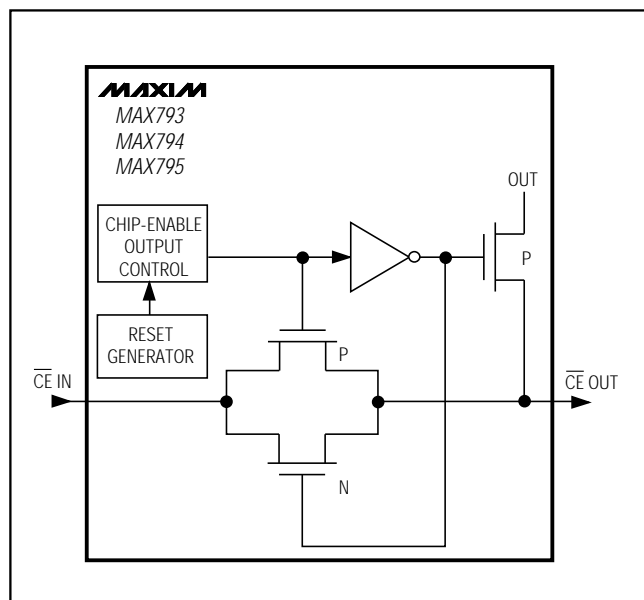

Figure 7. Chip-Enable Transmission Gate
Internal gating of chip-enable (CE) signals prevents erroneous data from corrupting CMOS RAM in the event of an undervoltage condition. The MAX793/MAX794/MAX795 use a series transmission gate from \overline{CE} IN to \overline{CE} OUT (Figure 7). During normal operation (reset not asserted), the CE transmission gate is enabled and passes all CE transitions. When reset is asserted, this path becomes disabled, preventing erroneous data from corrupting the CMOS RAM. The short CE propagation delay from \overline{CE} IN to \overline{CE} OUT enables these μP supervisors to be used with most μPs. If \overline{CE} IN is low when reset asserts, \overline{CE} OUT remains low for typically 10μs to permit completion of the current write cycle.